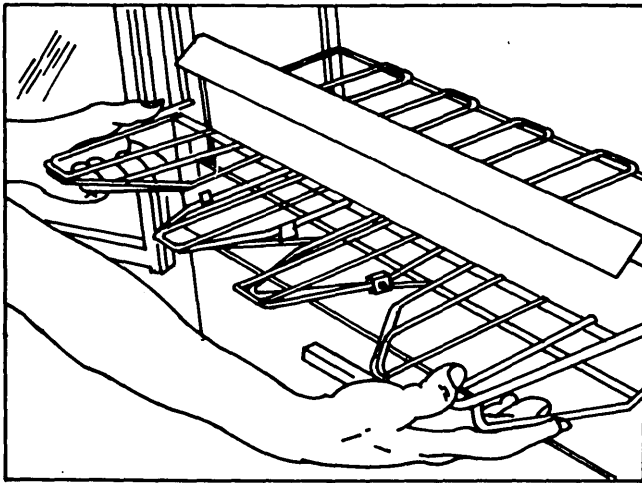
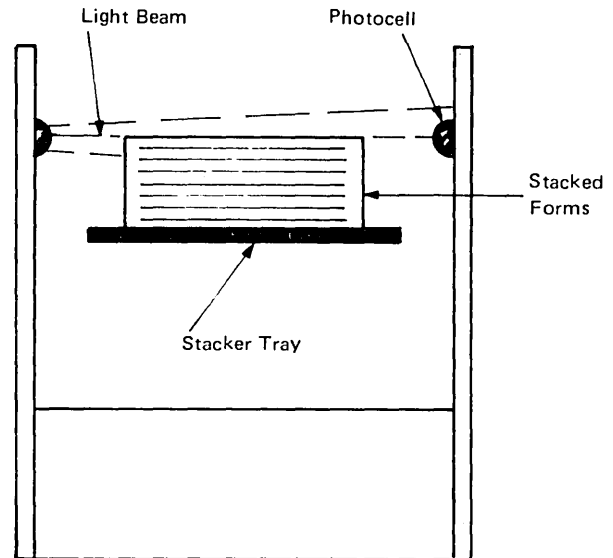

Figure 29. Raising the Stacker Tray
Figure 30. Paper Pile Sensing Device
**Stacker Tray:** This is a horizontal grid which holds the printed forms. You raise the tray by hand (Figure 29) and lower the tray by pressing the STACKER DOWN key. During printing, the tray moves down automatically as the paper pile grows. The movement is controlled by a sensing device (Figure 30), located on both sides of the stacker housing.